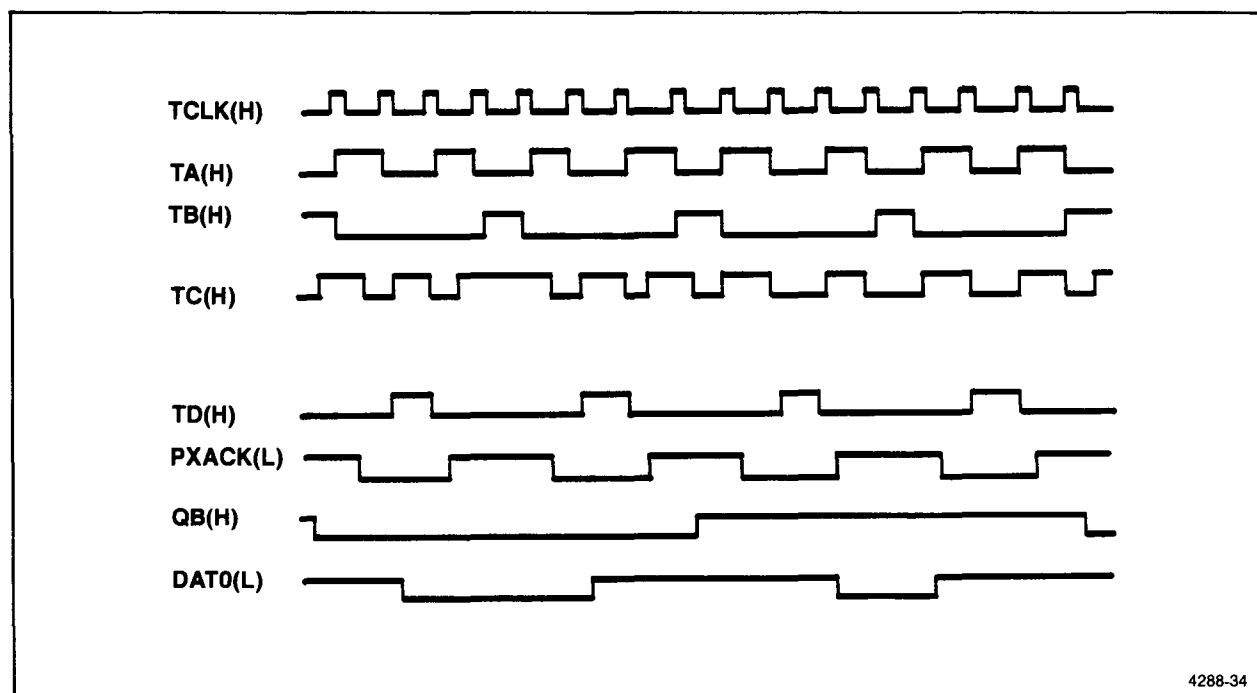

Figure 4-8. Timing generator inputs and outputs.
The timing generator provides timing reference edges for deskew latches and synchronizes generation of PXACK(L). PXACK(L) then returns to the timing generator. Outputs from the deskew latches will change on the rising edge of signals TA(H), TC(H), or TD(H) (depending on the particular latch). Timing relationships of the timing generator's input and output signals are shown in Figure 4-8.
TB(H) is generated by ANDing PXACK(L) with the inverted Q(H) output of U3075B. This is accomplished by components U3071D and U2071C. TB(H) clocks the phase B counter and flip-flop U3075A. Figure 4-8 shows the timing relationship of TB(H) to other timing generator signals.
TC(H) is generated by U4075B as a logical function of U3075B's Q(H) and Q(L), PXACK(L), and QB(H); refer to the Self-Test circuit diagram and Figure 4-8 for details. Because both the Q(H) and Q(L) outputs of U3075B are fed to U4075B, a 2:1 multiplexer function is formed. TC(H) clocks the data generators' deskew latches. On alternate AA data cycles, the data setup time at the output of the self-test generator is reduced from approximately 50 ns to 0 ns, with respect to XACK(L). The 0 ns data setup time simulates worst-case bus timing specifications.
TD(H) is generated by NORing the 10 MHz Q(H) output of U3075B with PXACK(L) (5 MHz). TD(H) clocks the address generator and deskew latches, the interrupt deskew latch, and the miscellaneous deskew latch. Figure 4-8 shows the timing relationship of TD(H) to other timing generator signals.